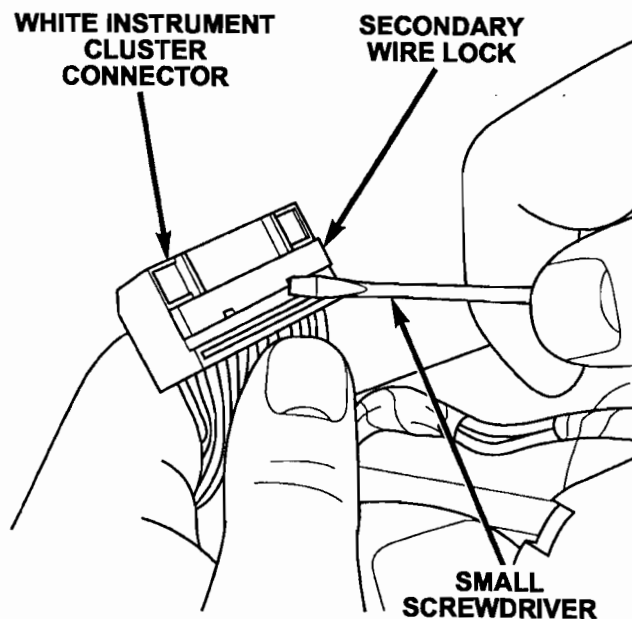

Figure 4
- a. Lift the secondary wire lock located on the side of the white instrument cluster electrical connector (Figure 4).